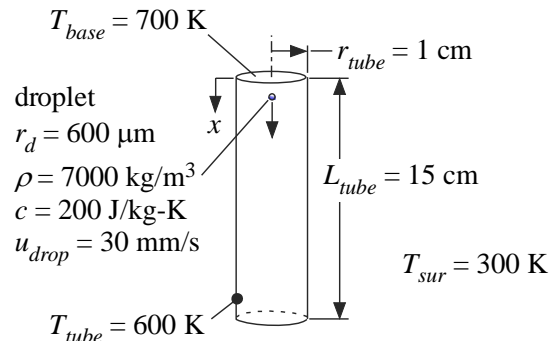

**Figure P10.3-16: Transfer line.**
10.3-16 A transfer line is used to provide liquid nitrogen to an experiment, as shown in Figure P10.3-16.